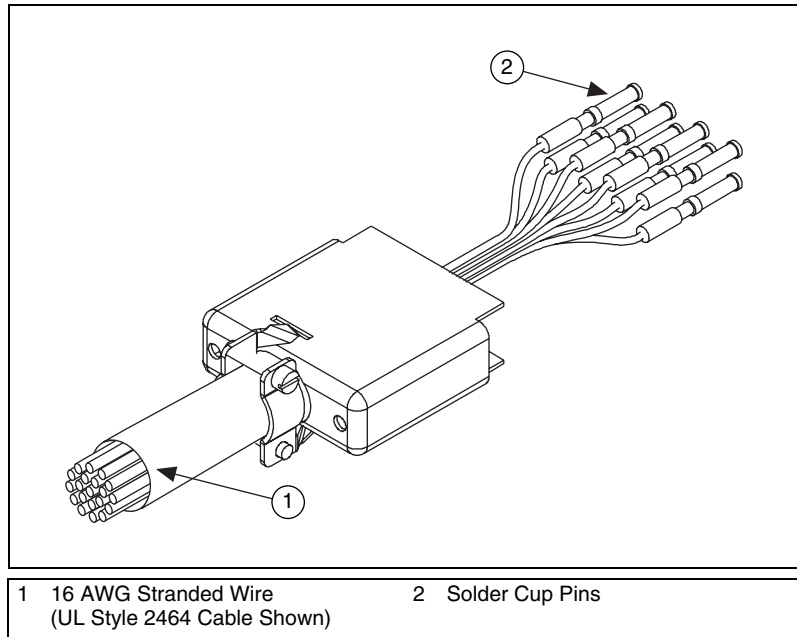

Figure 2. Backshell with Threaded Wires
8. Route all the conductors through the backshell as illustrated in Figure 2.